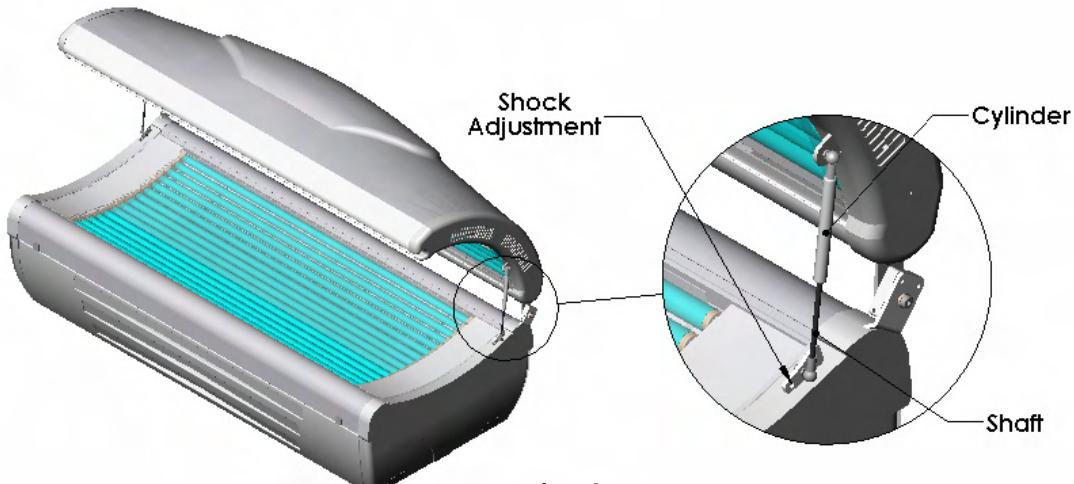

Fig. 3
- STEP 5. Remove the nut from each end of the shock. Attach cylinder end of the shock to the canopy and attach the shaft end of the shock to the center position on the bench. (Fig. 3)